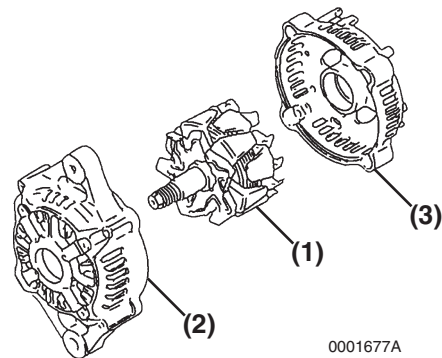
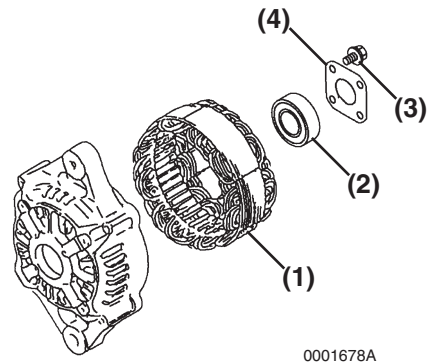

Figure 11-9
Figure 11-10
- Using a press, remove the rotor assembly (**Figure 11-9, (1)**) from the front frame housing (**Figure 11-9, (2)**) and rear frame housing (**Figure 11-10, (1)**).
- Remove the stator assembly (**Figure 11-10, (1)**) from the front frame housing.
- If necessary to replace the bearing (**Figure 11-10, (2)**) in the front frame housing, remove the four bolts (**Figure 11-10, (3)**) securing the plate (**Figure 11-10, (4)**) to the front frame housing. Remove the plate. Use a puller to remove the bearing. Discard the bearing.